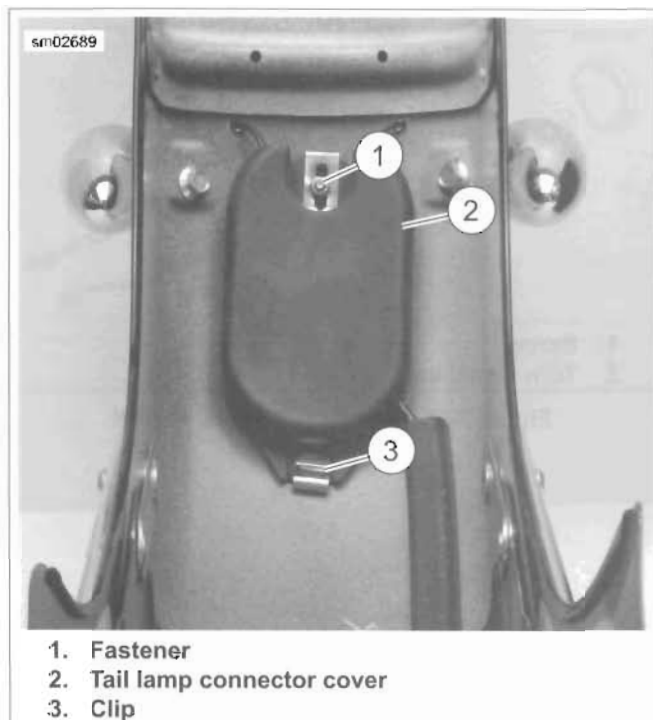

Figure 7-63. Tail Lamp Connector Cover
2. See Figure 7-63. Remove fastener (1). Disengage tail lamp connector cover (2) from clip (3).
9. See Figure 7-63. Slide tail lamp connector cover (2) into clip (3). Install fastener (1) and tighten to 8-30 in-lbs (0.9-3.4 Nm).